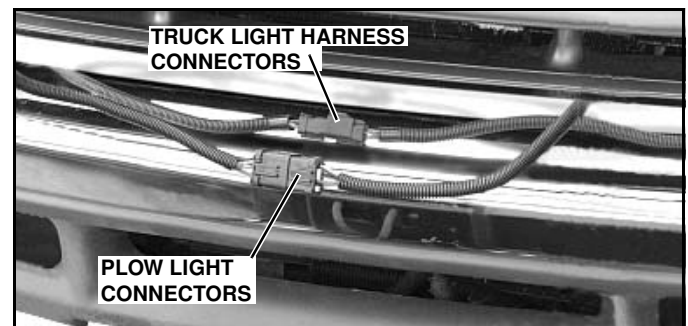

Figure 1-34
1. Unplug EIS® light harness connectors on truck, and disconnect plow light connectors, which had been plugged together for corrosion protection during storage. (See Figure 1-34).